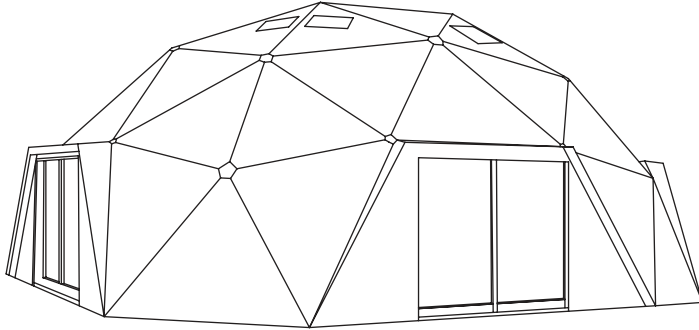

Figure 9.1
- 9 (a) Figure 9.1 shows a building based on a dome structure where individual triangular frames are joined to form a thin self-supporting shell structure.